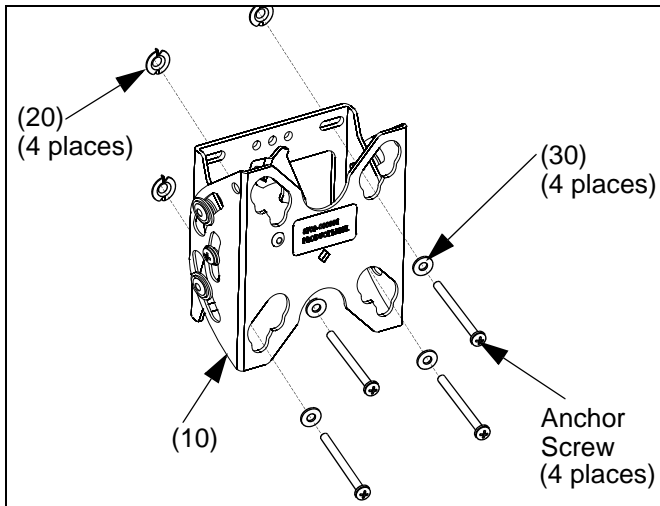

Figure 4: Installation to Drywall
8. Using Phillips screwdriver, insert anchor screws through washers (30) and plate (10) and install into
collapsed anchors (20). Tighten until secure (See Figure 4).